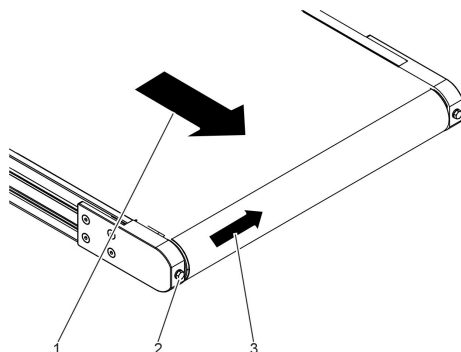

Fig. 77: Diverter roller outlet
- ➔ Make corrections in small steps by turning the clamping screw (Fig. 77/2) clockwise by 1/8 to 1/4 turn. The conveying direction corresponds to the direction of the arrow (Fig. 77/1).
- ⇒ The conveyor belt reacts in the direction of the arrow (Fig. 77/3).